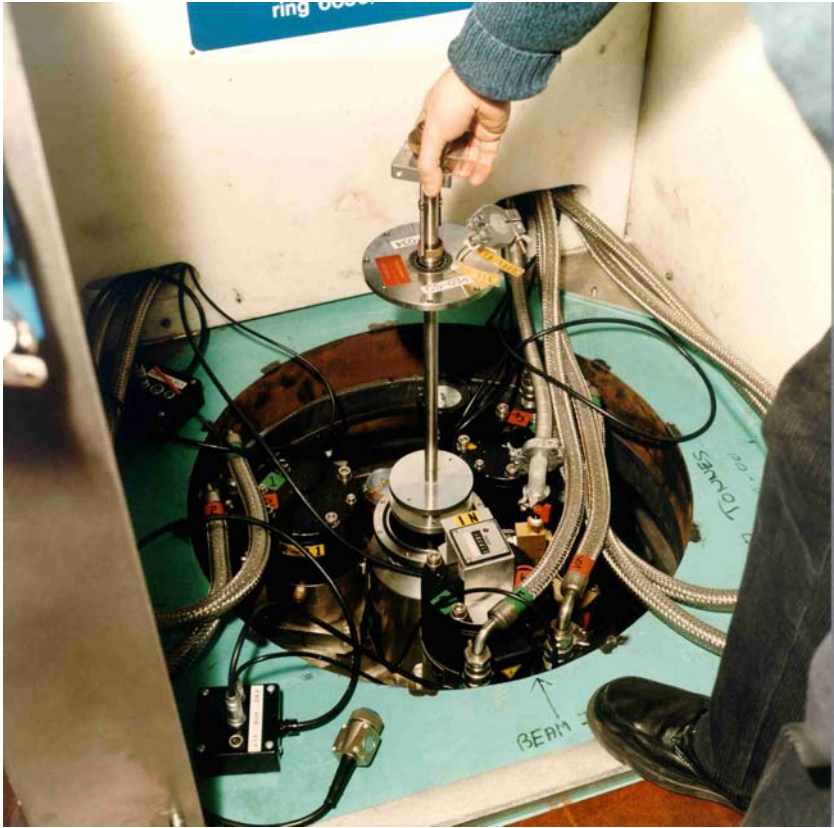

Figure 2.12: Centrestick withdrawal
13. Unscrew the retaining bolts at the top of the sample centrestick and withdraw the centrestick smoothly but **RAPIDLY**. (*Figure 2.12*).